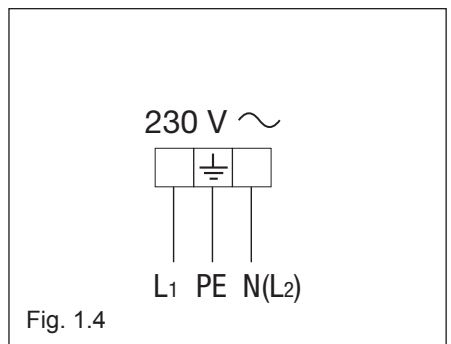

Fig. 1.4
- Connect the wires to the terminal block "B" as shown in the diagram in figure 1.4.